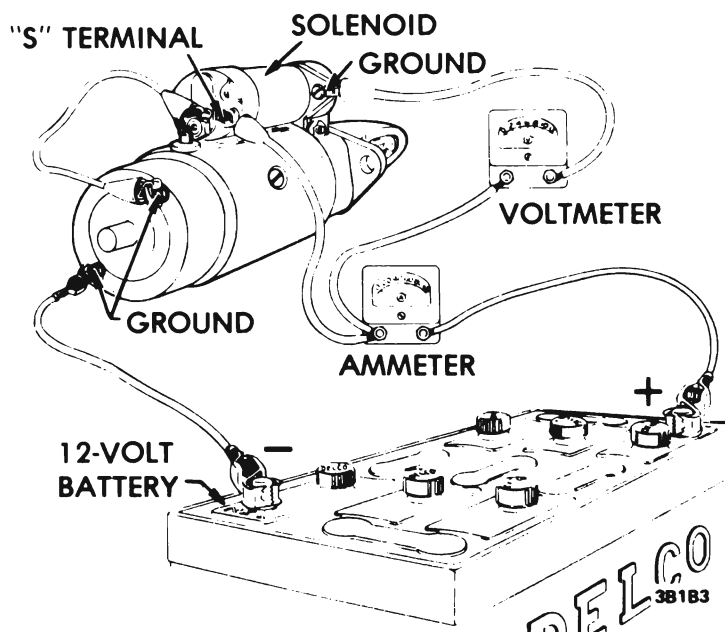

Figure 1B-3 Amperage Test of Solenoid
4. Connect a heavy jumper from the solenoid base to the ground terminal of the battery and a voltmeter between the solenoid base and "S" terminal See Figure 1B-3.